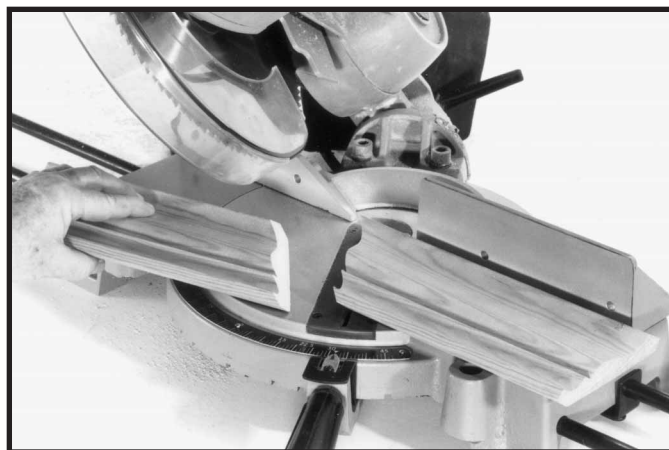

Fig. 35
10. Fig. 35, illustrates the cuttinghead tilted and the arm in a miter position for a compound miter/bevel cutting operation.